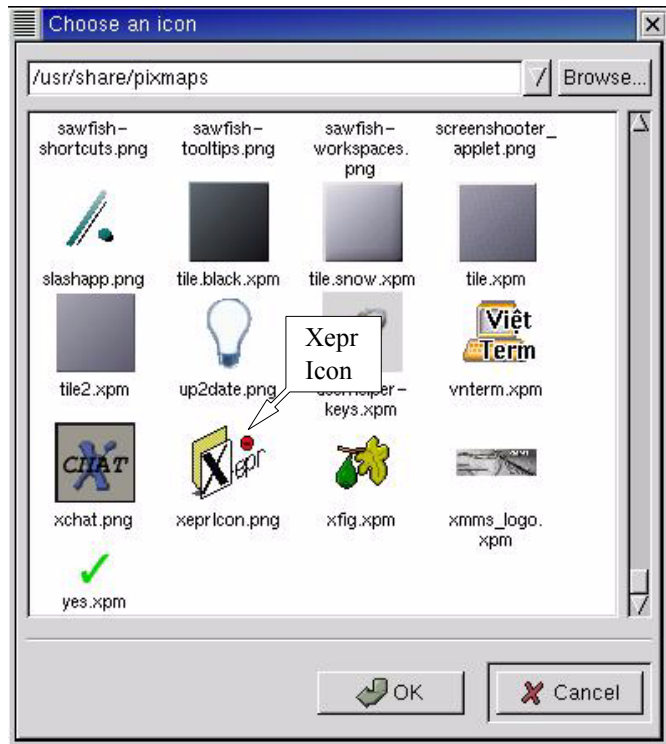

Figure 16-4 Selecting the Xepr icon.
3. **Select the Xepr icon.** In the Choose an icon window scroll down and click on xepriicon.png to highlight it. Click the OK button to exit. (See Figure 16-4.)